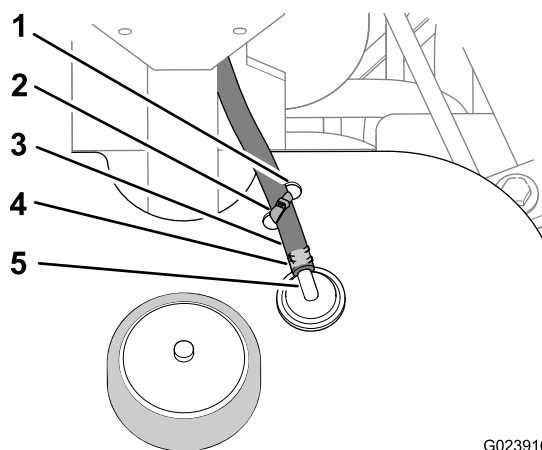

Figure 16
4. Install the vent hose and hose clamp onto the hose fitting of the vent valve for the fuel tank (Figure 16).
- Using the 2 holes 9.5 mm (3/8 inch) in the top of the fuel tank, secure the hose to the tank with the cable tie as shown in Figure 16.